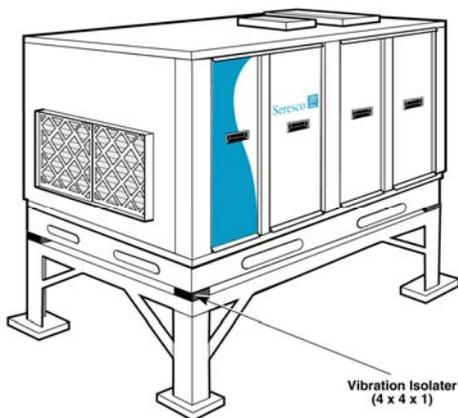

Figure 1 – Typical Floor Installation
- Figures 1 and 2 illustrate typical unit mounting configurations.